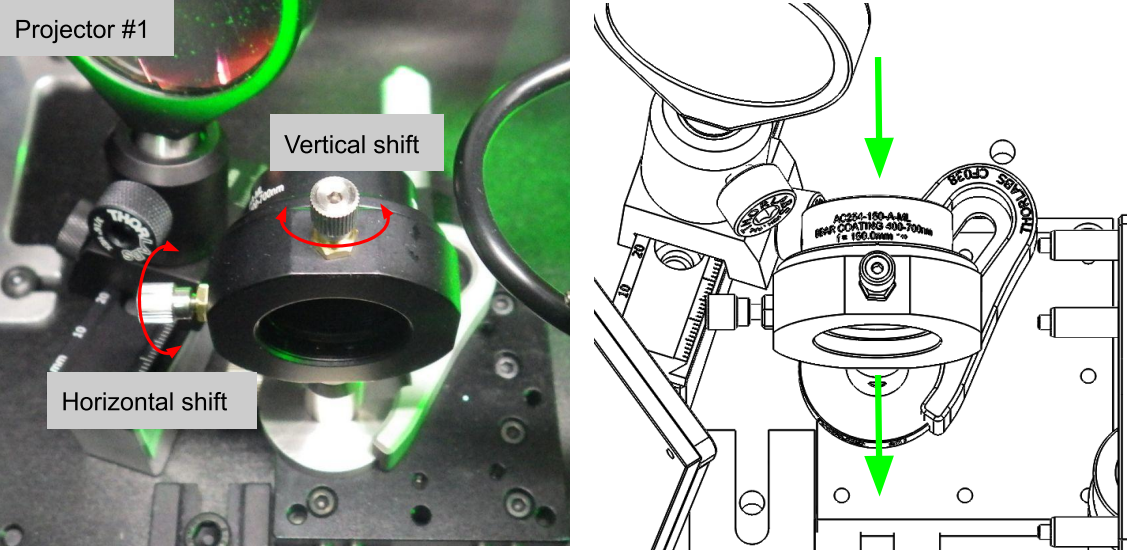

Fig. 16. Projector 1 adjuster and PC screen of USB camera
- If the Green grid is too far off from the target, you will need to adjust the Green grid by adjusting lens position as shown in Fig. 16.